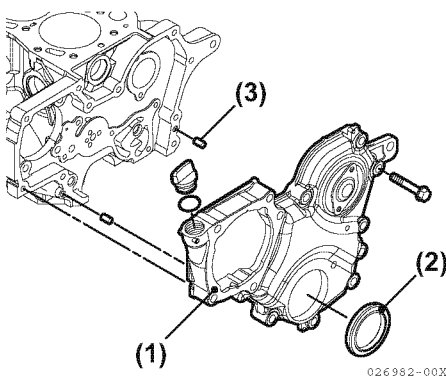

Figure 6-60
1. Remove the seal (**Figure 6-60, (2)**) from the gear case cover (**Figure 6-60, (1)**).